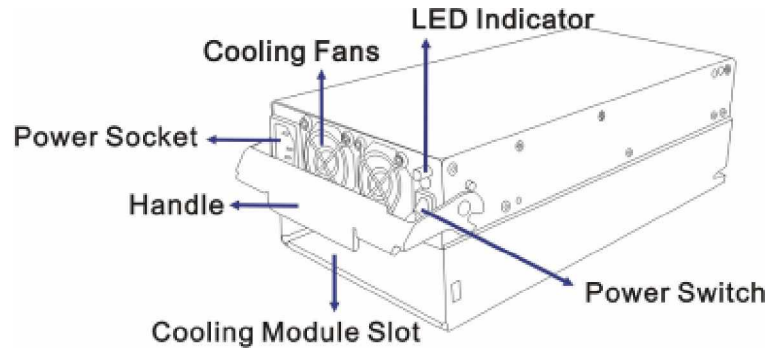

Figure 1-12: PSU
As shown in *Figure 1-12*, each PSU comes with a single power socket for power cord plug-in and a power switch on the right to turn the subsystem on and off. Two (2) embedded cooling fans provide sufficient airflow to keep the PSU cool. A single LED indicates the PSU status. When any power supply failure occurs, such as over-voltage or fan failure, the LED shines red. A handle at the back of the PSU enables you to remove the PSU from the subsystem while the subsystem is online. This should only be done if the PSU has failed and needs to be replaced.